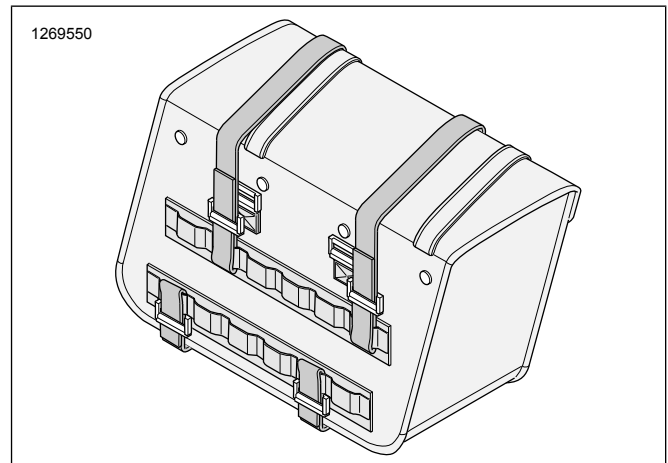

Figure 2. Attach Hook-and-Loop (Typical)
2. Figure 2 Attach minimum three hook-and-loops to back of saddlebag.